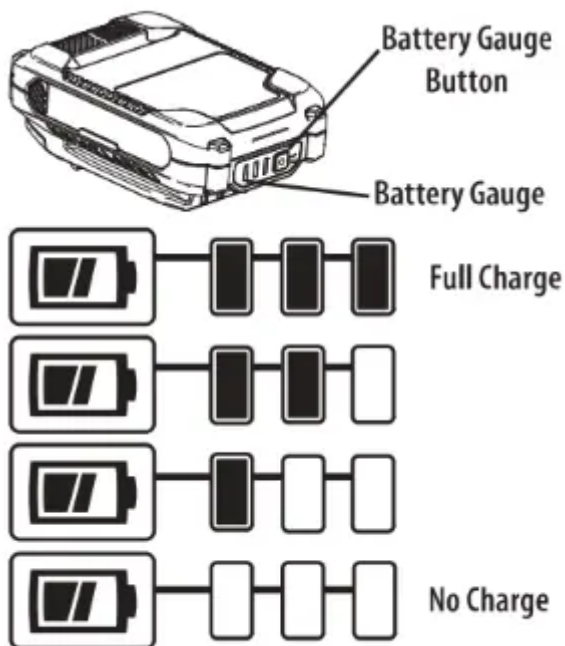

Figure 29
- Press the battery gauge button on front of the battery pack to check charge level (Figure 29):